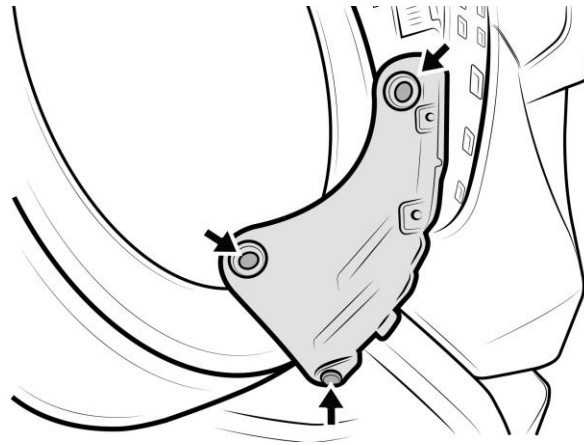

Fig 2-1
- (a) Remove 2 push pins & 1 bolt (Fig. 2-1)